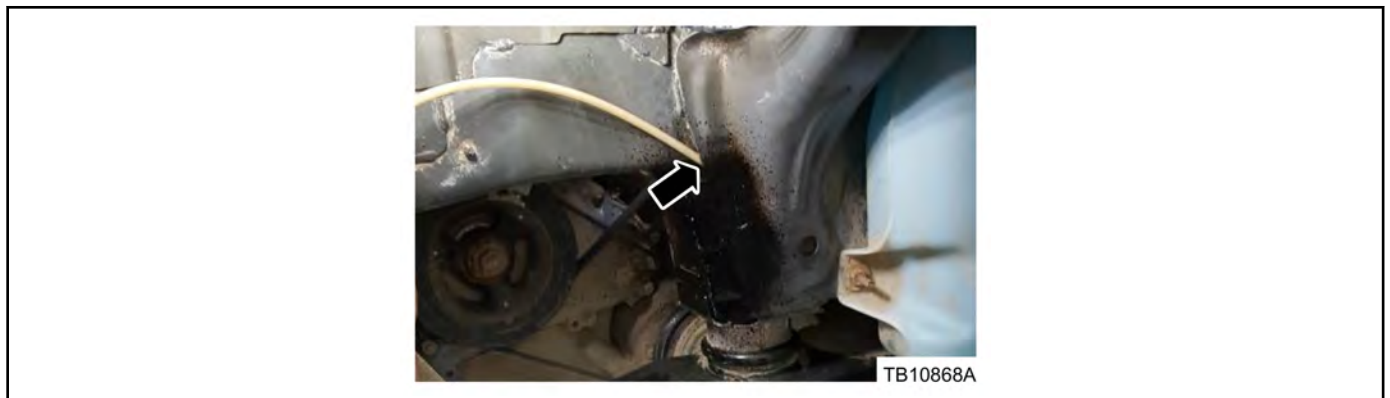

Figure 7 - Article 16-0021
- a. Use an appropriate spray nozzle to access the cavity. (Figure 7)